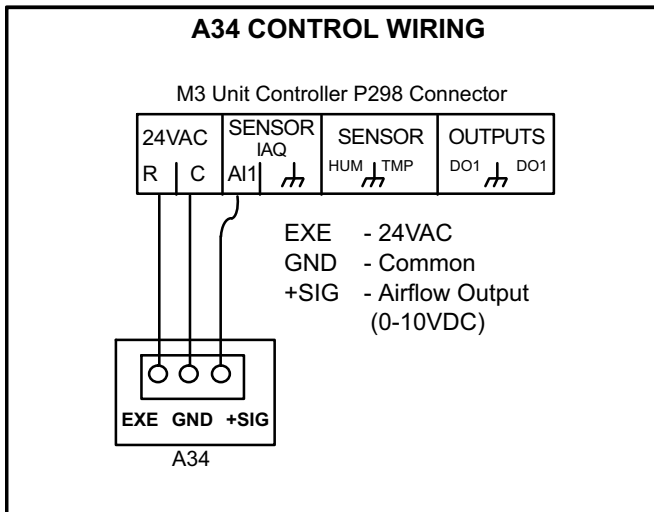

FIGURE 4
- 4- Remove the A34 sensor cover and connect field-provided three-wire cable (22AWG) as shown in figure 4. Use an approximately 4-foot length of cable for 092-152 units and 10-foot length of cable for 156-360 units.